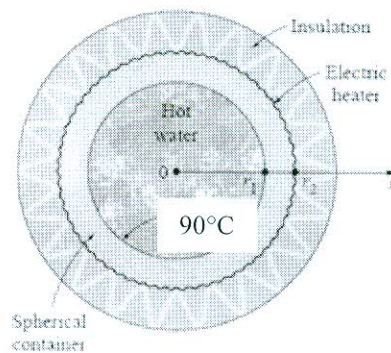

Figure 6: Water pipe with strip heater
4. [a] In a food processing facility, a spherical container of inner radius, $r_1=20$ cm, outer radius $r_2 = 40$ cm, and thermal conductivity, $k = 2 \text{ W.m}^{-1}.\text{°C}^{-1}$ is used to store hot water and to keep it at 90°C at all time. To accomplish this, the outer surface of the container is wrapped with a 400 W electric strip heater and then insulated like in Figure 6. The temperature of the inner surface of the container is observed to be nearly 90°C at all time. Assuming 5% of the heat generated in the heater is lost through the insulation, calculate the following heat transport properties: